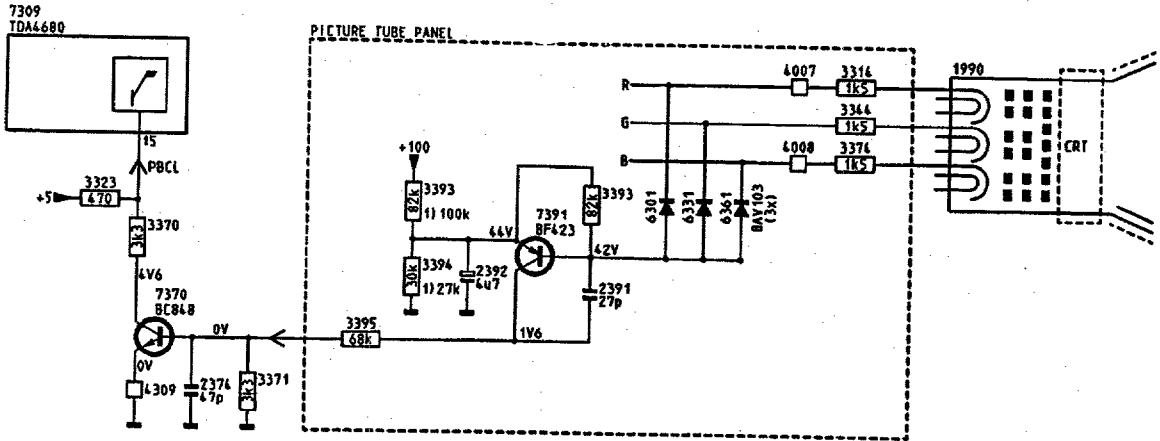
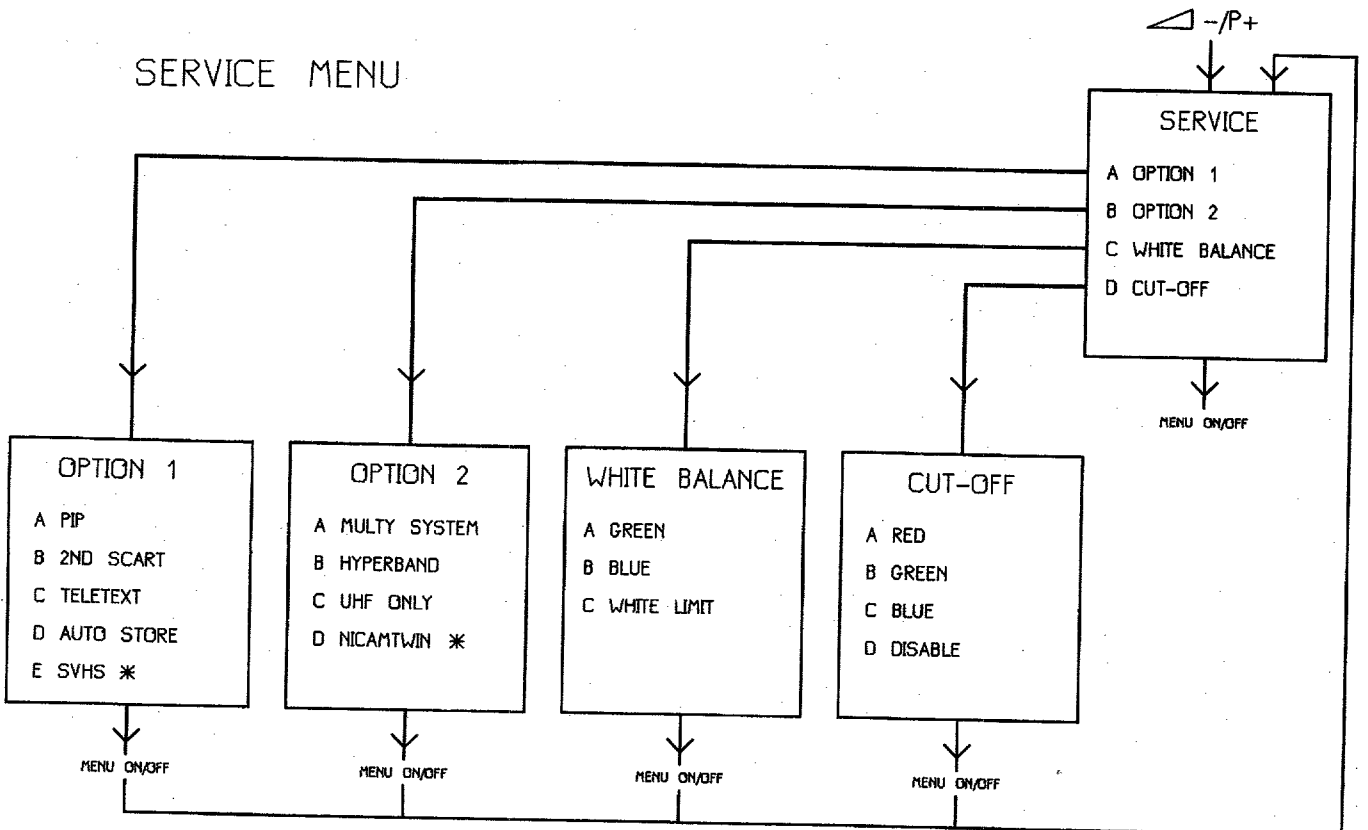

Fig. 5.8
Fig. 5.10
The peak beam-current information is measured via D6301, D6331 and D6361, see fig. 5.8. If the voltage at one of the amplifiers is lower than approximately 43V (high beam current), then TS7391 will start to conduct, with the result that TS7370 will also start to conduct. Consequently, the voltage at pin 15 of the TDA4680 becomes lower and the peak white limiter becomes active. Peak white limitation is set using the service menu option WHITE BALANCE (C) (see fig. 5.10). The setting is made via the I²C bus.
The cut-off points are set via the I²C bus using the service menu option CUT-OFF (see fig. 5.10).
The white balance is also set via the I²C bus using the service menu option WHITE BALANCE (see fig. 5.10).
- 2) resistors in series with RGB electrodes (R3314, R3344 and R3374 (see fig. 5.8).